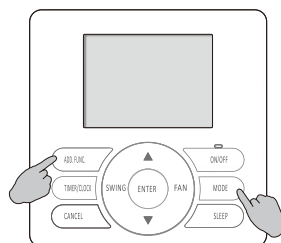

fig.1
1. Hold down Mode button and ADD. FUNC. button for 3s simultaneously to enter parameters customer-reading state, then customer-reading parameter codes will display in the temperature display area. (see fig.1)